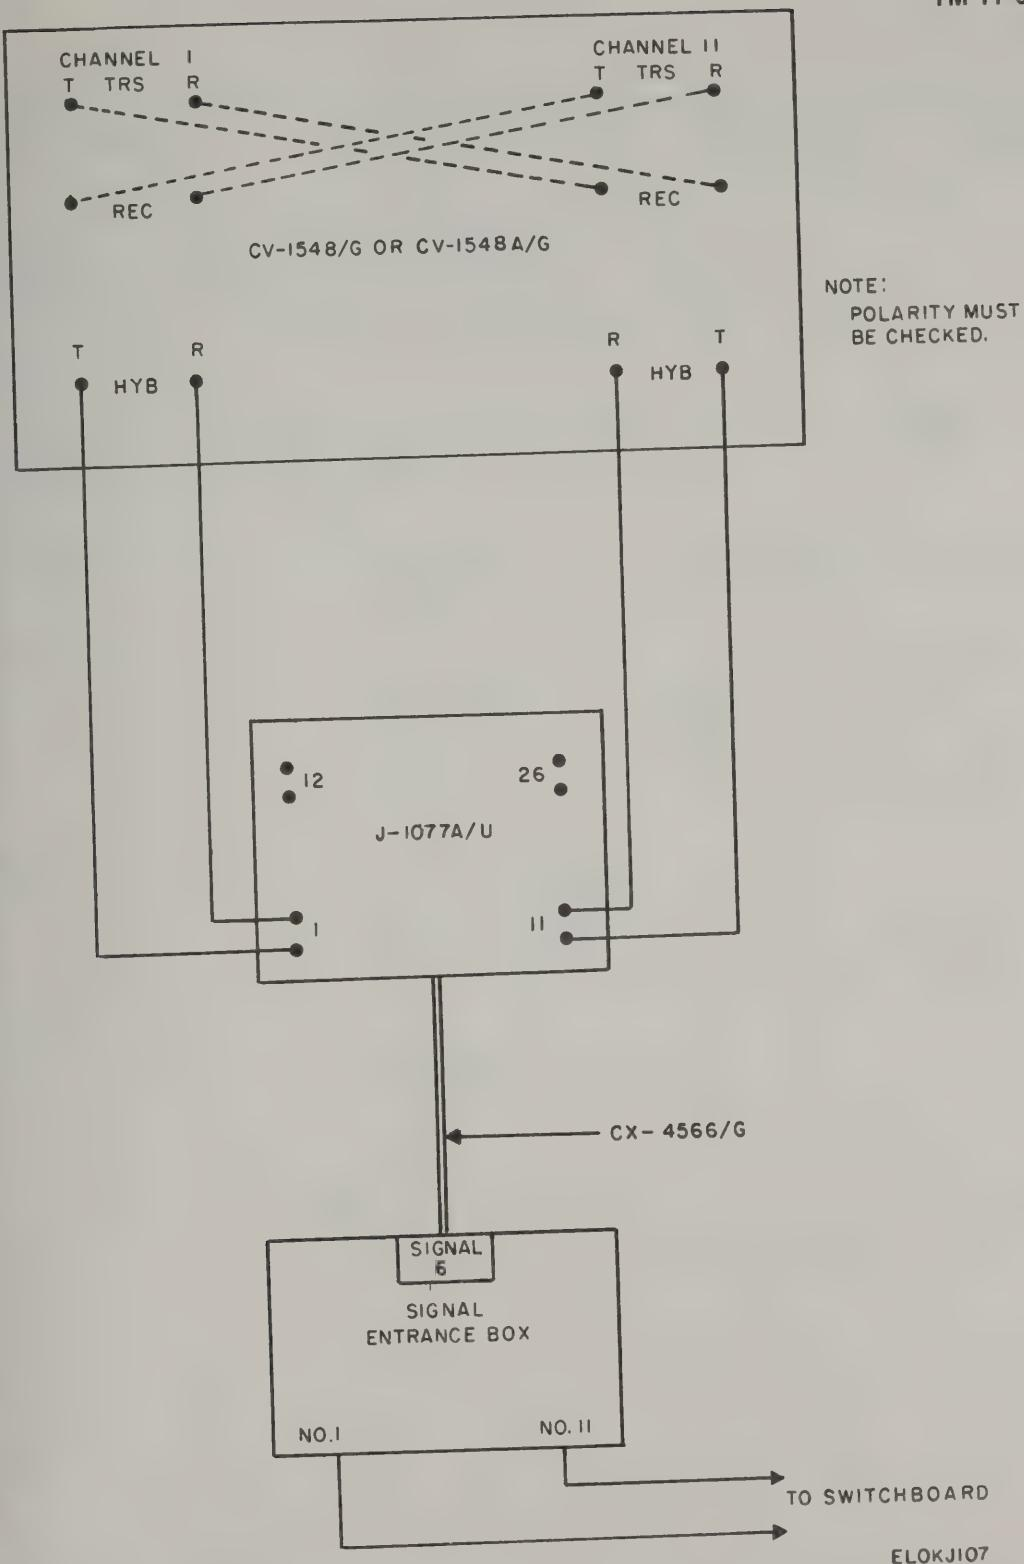

Figure E-1. Idle Lamp Control Trunk Test Hookup.
(1) Place all idle lamp control switches, on the TA-276/TTC rack, to the ON position. Each idle trunk lamp on face equipment shall light.
(2) Reposition switches so only LIGHTS 1 and 11 on both switchboards remain on.
(3) Arrange the idle trunk hookup as shown in figure E-1.
(4) Place first (extreme left) CALL cord plug of switchboard No. 1 into trunk line jack No. 11. Idle lamp for jack No. 11 shall go out and adjacent lamp for jack No. 12 shall light (both switchboards).
(5) Place ANS cord plug of switchboard No. 2 into trunk line jack No. 1. Idle lamp shall extinguish and second idle lamp shall light (both switchboards).
(6) Place RING-CALL-TALK keys of both switchboards to the TALK position. Communication between switchboard headsets shall be loud and clear. Return keys to neutral position.
(7) Temporarily withdraw CALL cord plug from jack. Idle lamp (No. 12) shall go out and lamp at position No. 11 shall come on. ANS supervisory lamp at switchboard No. 2 shall light.
(8) Withdraw ANS cord plug at switchboard No. 2. The ANS supervisory lamp shall go out.
(9) Reinsert CALL cord plug into jack No. 11 to simulate an "in use" trunk.
(10) Repeat (1) through (9) above utilizing CALL cord plugs 12 through 20 (sequentially) on switchboard No. 1 and move connections at J-1077A/U to pairs 2 and 12, 3 and 13, etc.
(11) Repeat (4) through (10) above for switchboard No. 2.
(12) Return connections at J-1077A/U to pairs 1 and 11. Remove all plugs.
(13) Repeat (4) through (10) above using CALL cords at switchboard No. 1, trunks 1 through 10 and ANS cords at switchboard No. 2, trunks 11 through 20.